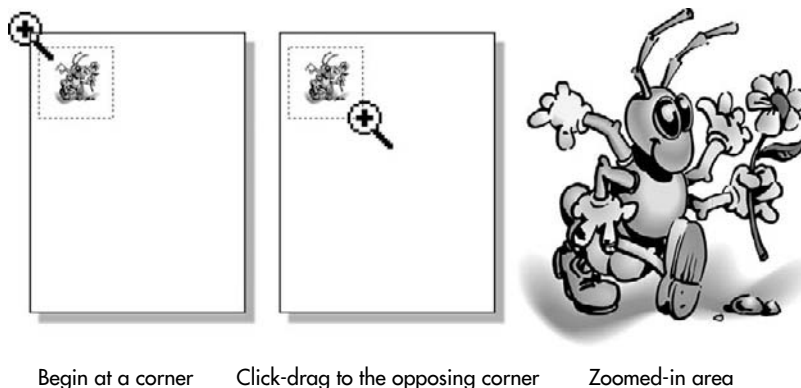

FIGURE 7-4 Marquee-dragging is the easy way to pinpoint a location and zoom in.
- **Zoom In** Zoom In is the default state while the Zoom Tool is selected. Clicking once in the drawing window increases your view magnification by twice the current percentage of zoom—100 percent goes to 200 percent with a click, then to 400 percent with another click in the window. Here's an important point: when you zoom in this way, using the tool and not the Zoom Levels selections, *you zoom in centered relative to the tool's cursor location onscreen*. You direct the final point of your zoom by centering it with your cursor. You can also use the Zoom Tool to perform *marquee* zooming, visually described in Figure 7-4. You place your cursor at the corner of the area you want to magnify, and then click-drag diagonally to the opposing corner of an imaginary bounding box that defines the area to which you want to zoom. You can target any two opposing corners, but most users tend to diagonally drag from upper left to lower right of an area.